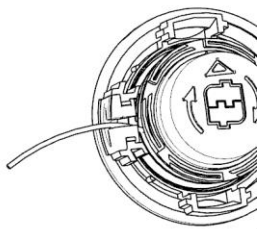

Fig.23
2. Place the trimmer line end through the metal position part, align the upper cover to spool retainer, and push them hard until you hear a clear “click” sound (Fig.23&24)